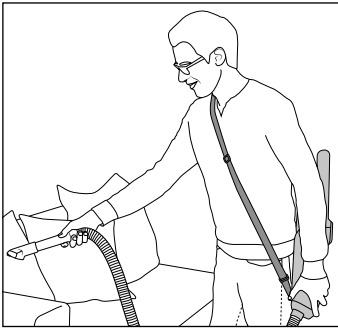

Fig. 12
- ▶ We recommend that you place the carrying strap ㉗ over your head onto one shoulder (see fig. 12).